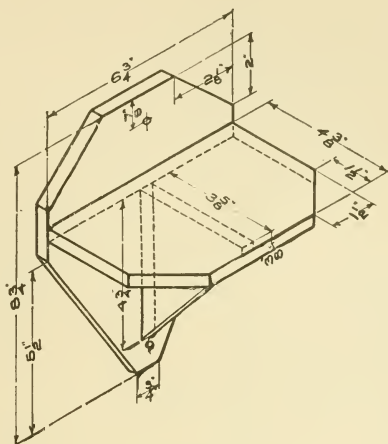

Fig. 49.
1. See 1 in model Shelf. Fig. 49.